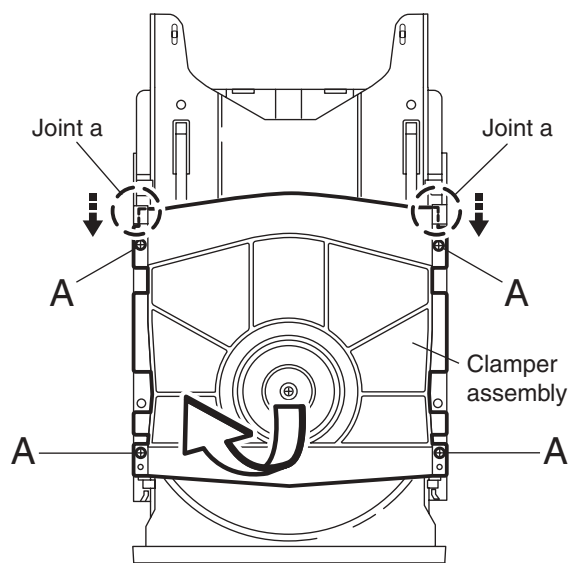

Fig.2-8
2.2.1 Removing the clamber assembly (See Fig.2-8)